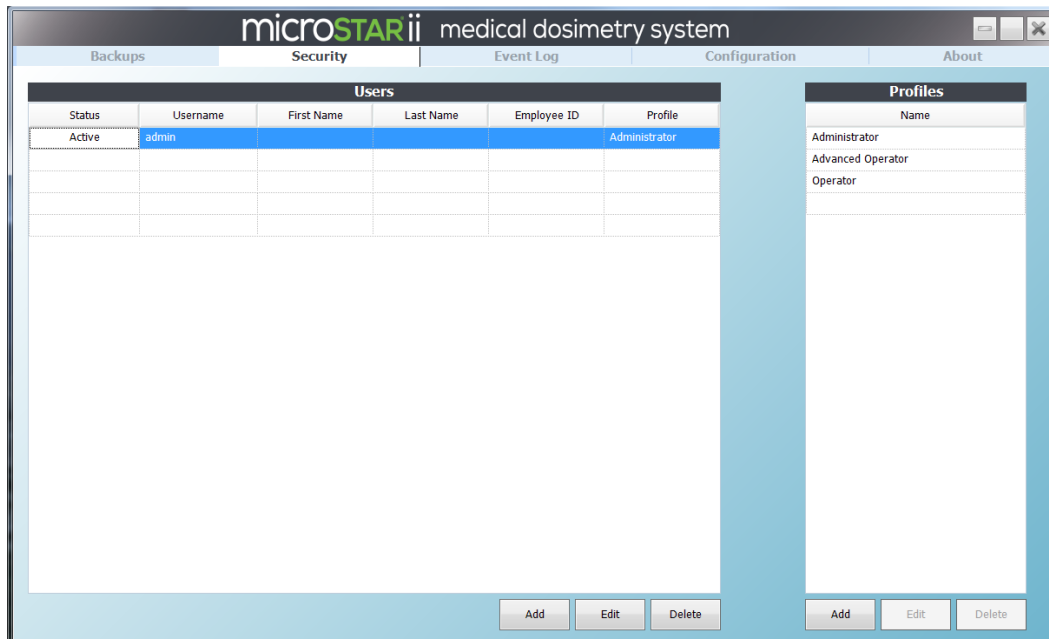

Figure 5-2: Security Tab
Accounts and profiles are managed on the *Security* tab (Figure 5-2).
- STEP 1:** On the *Security* tab (Figure 5-2), click the Add button under the Users table.